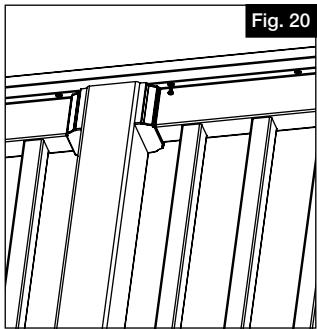

Fig. 20
- b. Drive #10 x  $\frac{3}{4}$ " screws up from under rail centered through slotted holes and into deck board (Fig. 20).